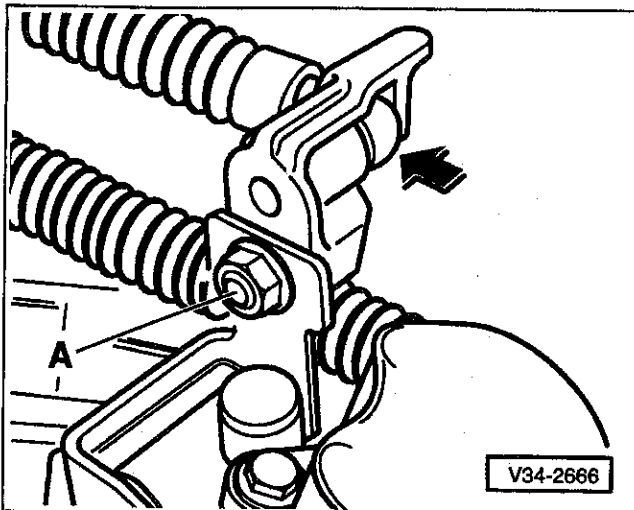

Fig. 11. Actuating arm/gate selector cable mounting nut (A). With nut loosened, press lightly on actuating arm (direction of arrow) and retighten nut.
7. Then loosen nut at actuating arm/gate selector cable mounting. See Fig. 11. Take up gate selector cable play by lightly pressing on actuating arm and retighten nut.